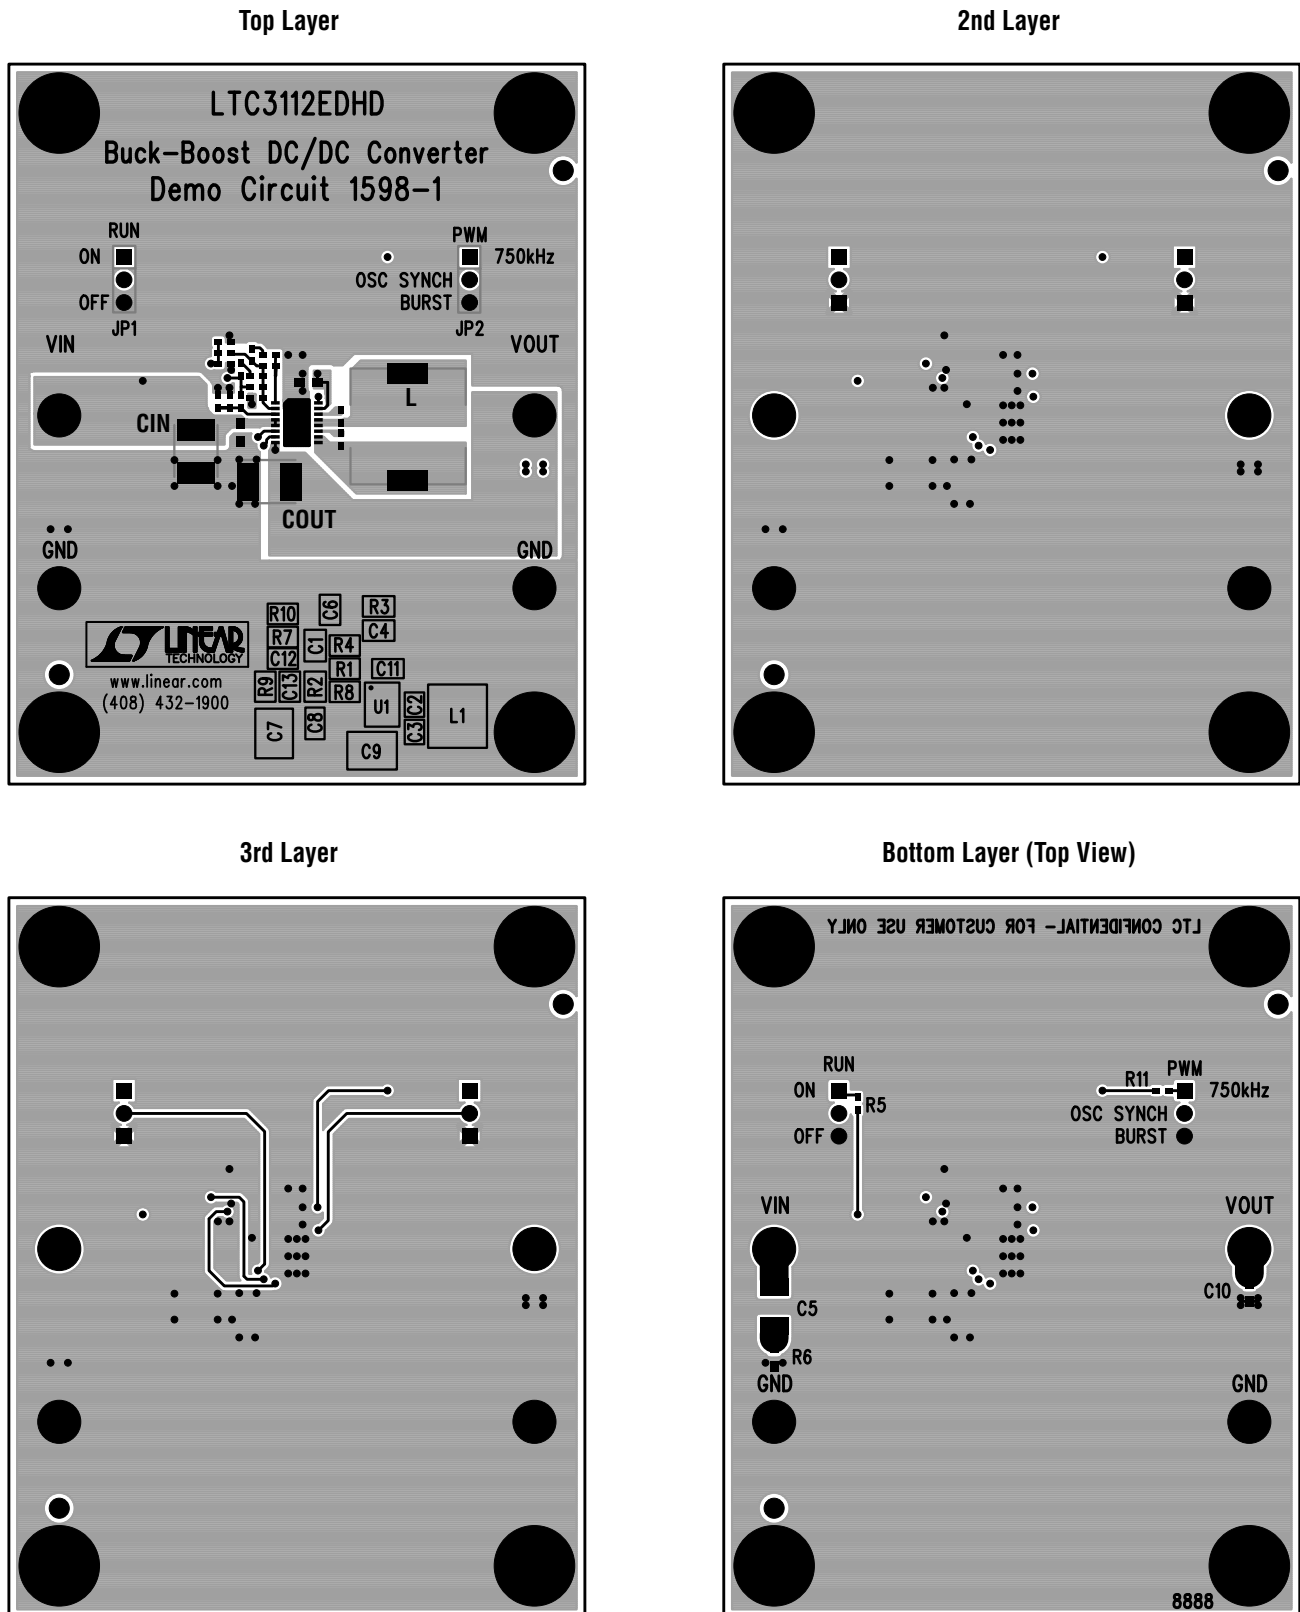

Figure 3. Example PCB Layout
The temperature rise curves given in the Typical Performance Characteristics section can be used as a general guide to predict junction temperature rise from ambient. These curves were generated by mounting the LTC3112 to the 4-layer FR4 Demo Board printed circuit board layout shown in Figure 3. The curves were taken with the board at room temperature, elevated ambient temperatures will result in greater thermal rise rates due to increased initial $R_{DS(ON)}$ of the N-Channel MOSFETs. The die temperature of the LTC3112 should be kept below the maximum junction rating of 150°C.
The LTC3112 switches large currents at high frequencies. Special attention should be paid to the PCB layout to ensure a stable, noise-free and efficient application circuit. Figure 3 presents a representative 4-layer PCB layout to outline some of the primary considerations. A few key guidelines are outlined below:
plane should be placed directly under the V_{IN} , V_{OUT} , SW1 and SW2 traces to provide a mirror plane to minimize noise loops from high di/dt and dV/dt edges (see Figure 3, 2nd layer).
2. All circulating high current paths should be kept as short as possible. Capacitor ground connections should via down to the ground plane in the shortest route possible. The bypass capacitors on V_{IN} should be placed as close to the IC as possible and should have the shortest possible paths to ground (see Figure 3, top layer).
8. Crossover connections should be made on inner copper layers if available. If it is necessary to place these on the ground plane, make the trace on the ground plane as short as possible to minimize the disruption to the ground plane (see Figure 3, 3rd layer).